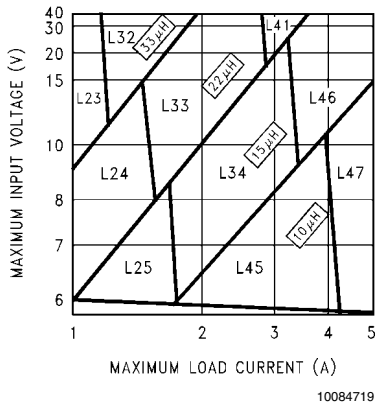
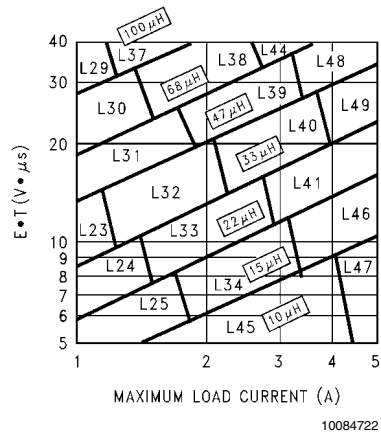

FIGURE 3. LM2679-3.3
FIGURE 6. LM2679-ADJ
Step 3: Determine the inductor required by using one of the four nomographs, *Figure 3* through *Figure 6*. Table 1 provides a specific manufacturer and part number for the inductor.
Step 5: Determine an input capacitor from Table 4 for fixed output voltage applications. Use Table 2 to find the specific capacitor type. For adjustable output circuits select a capacitor from Table 2 with a sufficient working voltage (WV) rating greater than $V_{in\ max}$, and an rms current rating greater than one-half the maximum load current (2 or more capacitors in parallel may be required).
Step 3: Use the nomograph for the 3.3V device, *Figure 3*. The intersection of the 16V horizontal line ($V_{in\ max}$) and the 4A vertical line ($I_{load\ max}$) indicates that L46, a 15 μ H inductor, is required.
Step 3: To use the nomograph for the adjustable device, *Figure 6*, requires a calculation of the inductor Volt•microsecond constant ($E \cdot T$ expressed in $V \cdot \mu S$) from the following formula:
Using *Figure 6*, the intersection of 27V•μs horizontally and the 3.5A vertical line (I_{load} max) indicates that L48, a 47μH inductor, or L49, a 33μH inductor could be used. Either inductor will be suitable, but for this example selecting the larger inductance will result in lower ripple current.
Important Note: When using the adjustable device in low voltage applications (less than 3V output), if the nomograph, *Figure 6*, selects an inductance of 22μH or less, Table 6 does not provide an output capacitor solution. With these conditions the number of output capacitors required for stable operation becomes impractical. It is recommended to use either a 33μH or 47μH inductor and the output capacitors from Table 6.